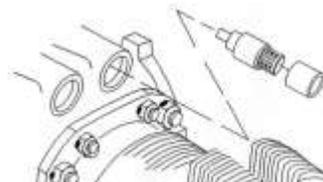

Figure 29
- (1) For each of the two shroud tubes, install the plunger assembly and hydraulic socket in the tappet bore in the crankcase (Figure 29).
- (2) Apply engine oil mixture (15% pre-lubricant (STP or equivalent) and 85% SAE No. 50 mineral base aviation grade lubricating oil) to all four of the shroud tube seals, two for each shroud tube.